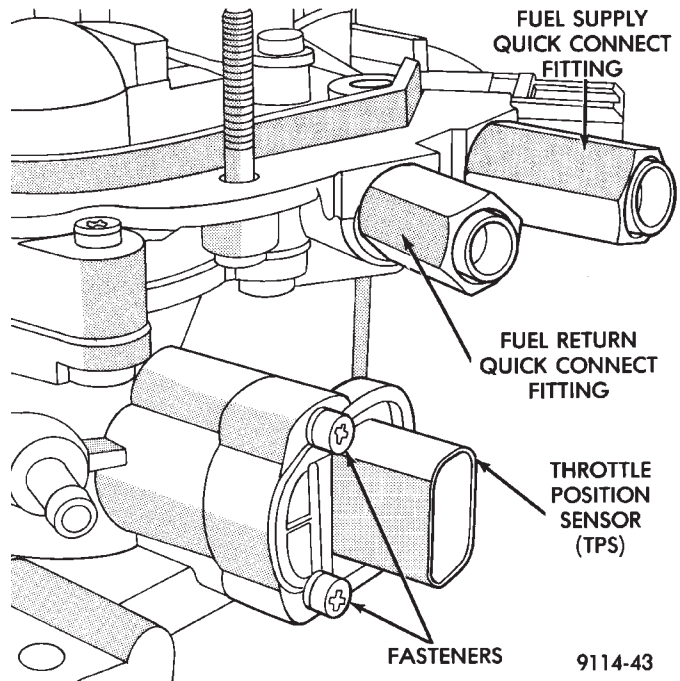

Fig. 5 Servicing Fuel Fitting
- (1) Remove air cleaner assembly.
- (2) Perform Fuel System Pressure Release procedure.
- (3) Disconnect negative battery cable.
- (4) Loosen fuel tube clamp on valve cover.
- (5) Wipe any dirt from around quick connect fittings. (Fig. 5) Place a shop towel under the connections to catch any spilled fuel. Remove fuel tubes from quick connect fittings. **Refer to Fuel Hoses, Clamps and Quick Connect Fittings in the Fuel Delivery Section of this Group.**
- (6) Remove each fitting from throttle body and note inlet diameter. Remove copper washers.